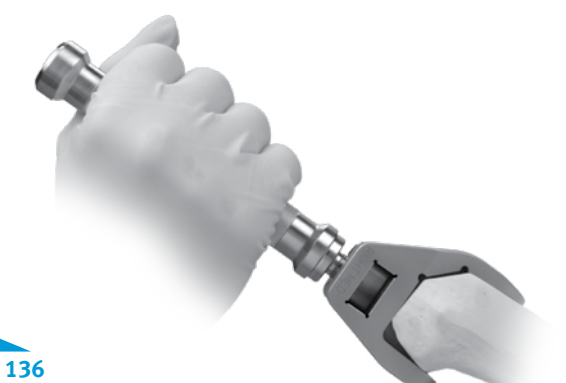

Fig. 136
- Confirm that the drill guide body is flush against the distal and anterior chamfer cuts on the lateral side (Fig. 136).